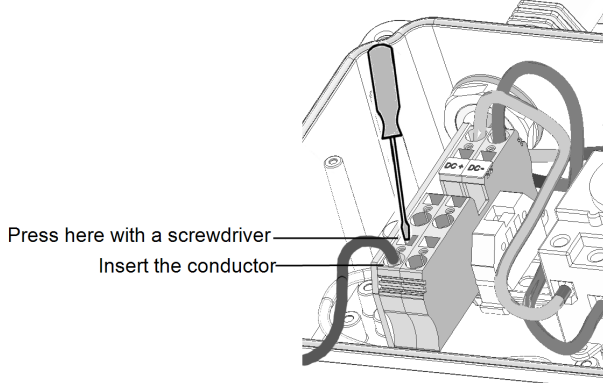

Figure 23: DC Spring-clamp terminal example - 9kW, 10kW and 20kW inverters
- Use a standard flat-blade screwdriver to connect the wires to the spring-clamp terminals. The screwdriver blade should fit freely in the terminal opening. Too large a blade can crack the plastic housing. See *Figure 23*